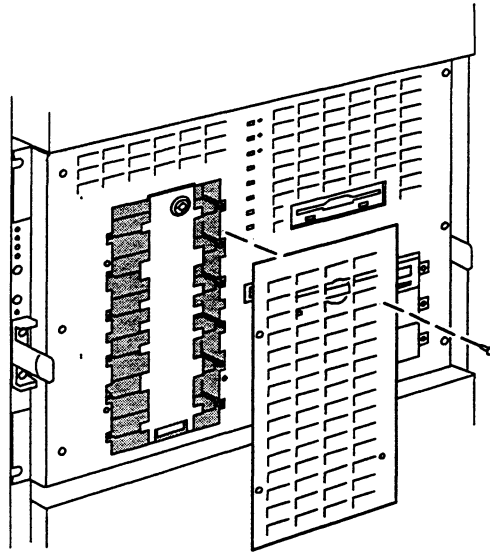

Figure 3-3 Removing the cover plate
2. Remove the cover plate as shown in Figure 3-3.